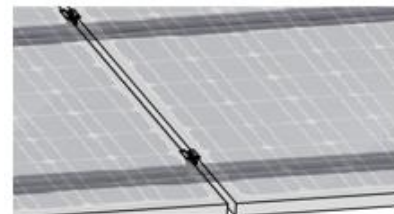

Fig 4.3.1D Positioning second module
- IV. Place second module next to first module and secure using middle clamp [Fig 4.3.1D].